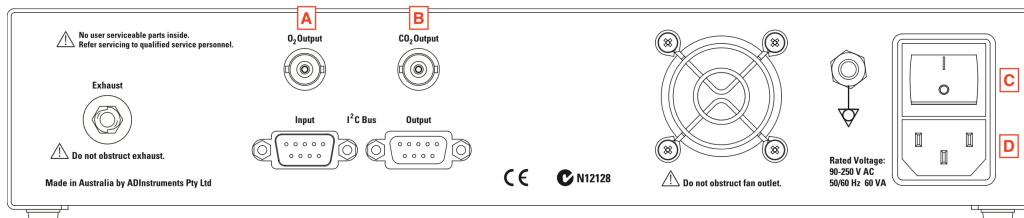

Figure 1: Schemes of the back/rear panel of the ML206 Gas Analyzer, ADINSTRUMENTS^[4]
1. Branch the power supply (Fig. 1, D).
2. Branch the *BNC-BNC cables*^[4] to the CO₂ and/or O₂ output of the gas analyzer (rear panel, Fig. 1, A and B).
9. Switch the power on (Fig. 1 C).